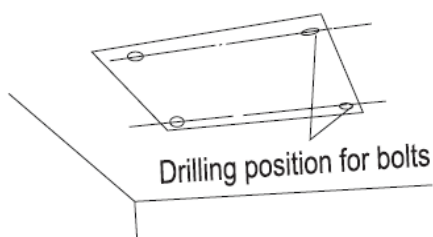

Figure 3-1-26
- (1) Using the installation template, drill holes for bolts (four holes). (Figure 3-1-26)